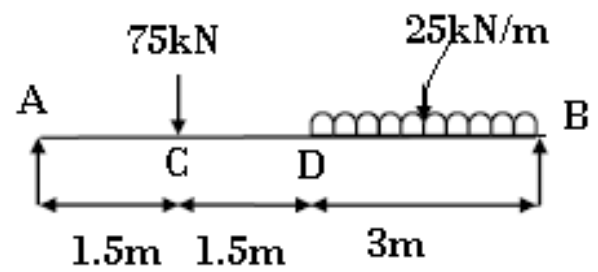

Figure 4
- (c) Draw Shear force and Bending moment diagrams for a beam loaded as shown in figure 4. 07